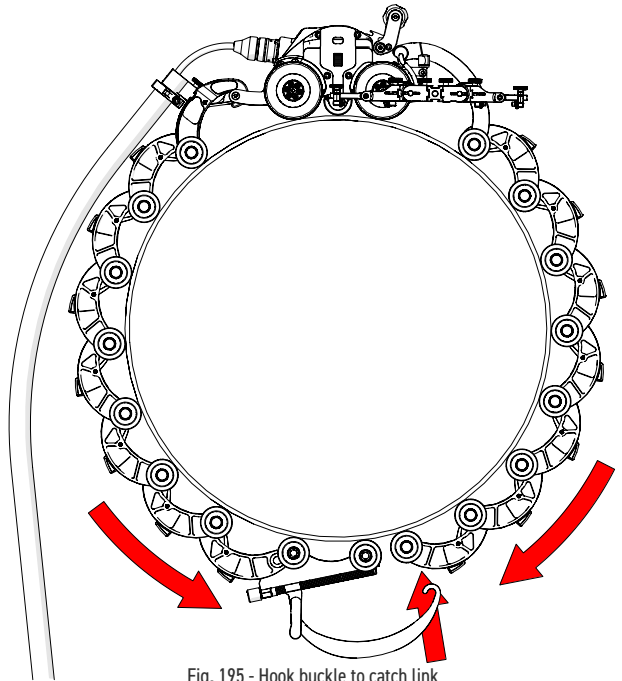

Fig. 195 - Hook buckle to catch link
9. Bring the buckle's arm towards the axle of the opposite chain link. Hook the buckle's arm to the middle axle of the chain link (Fig. 195).